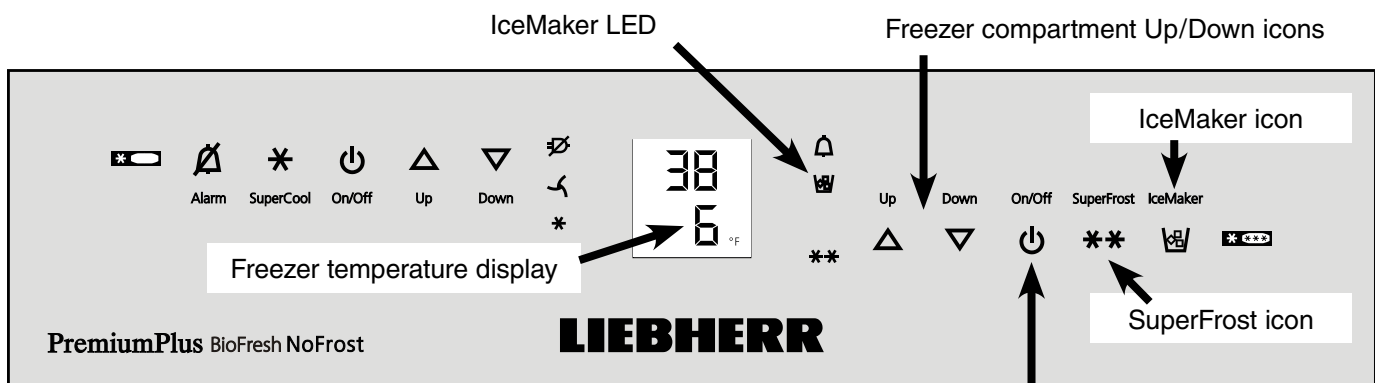

Figure 29
- Turn the ice maker on by touching the IceMaker icon (**Figure 29**).
- Touch the **IceMaker icon** so the **IceMaker LED** comes on (**Figure 29**).
- Touch the **IceMaker** icon so the **IceMaker LED** comes on (**Figure 29**).